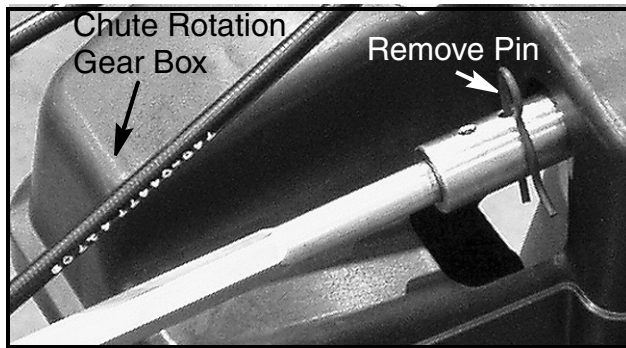

FIGURE 4
6. At the chute rotation gear box assembly, remove the hairpin clip. See Figure 4.